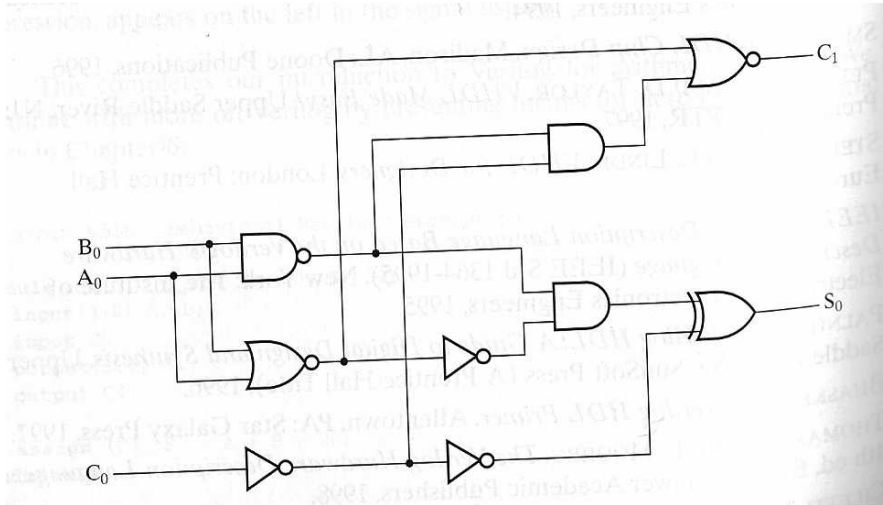

Figure 1: Circuit for Q 4.
4) Verify that Figure 1 below implements a full adder. Use Boolean algebra.